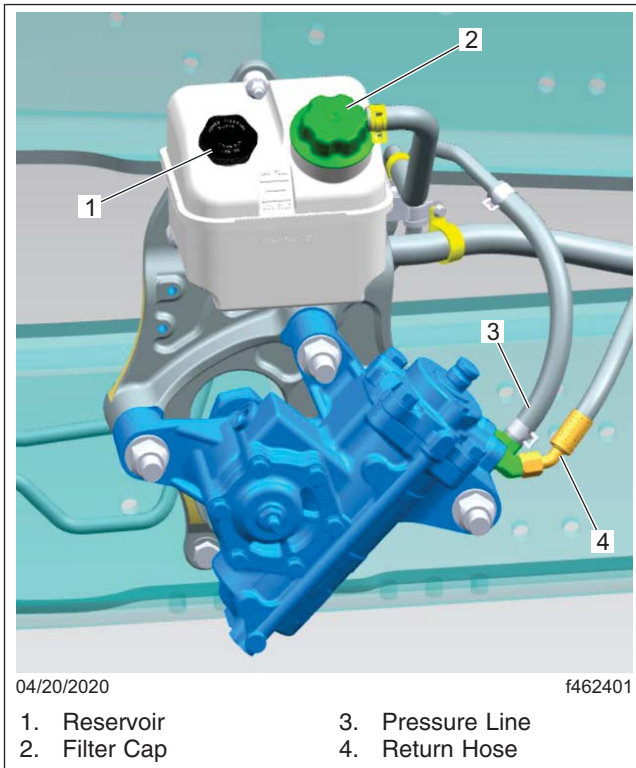

Fig. 1, Power Steering Reservoir
7. Remove the pressure line and return hose (see **Fig. 1**) from the steering gear and allow the oil to drain.
11. Fill the reservoir with an approved power steering fluid to the line between the MIN COLD and MAX HOT lines. See **Fig. 1**. See **Table 1** for approved power steering fluids.